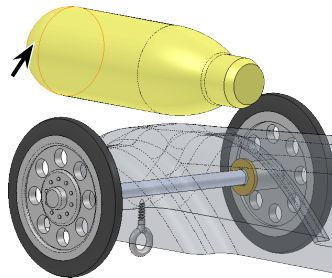

Fig. 23
Step 5. Rotate view to view **bottom of cartridge**, **Fig. 23**.
Step 6. Click **bottom face of cartridge**, **Fig. 23**.